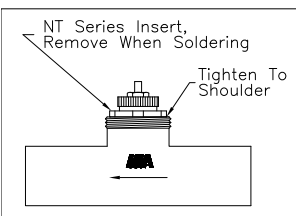

Fig. 2 NT Series Insert
1. Insert assembly MUST be removed from valve bodies with sweat fittings before installation to avoid heat damage to rubber components (Fig. 2).